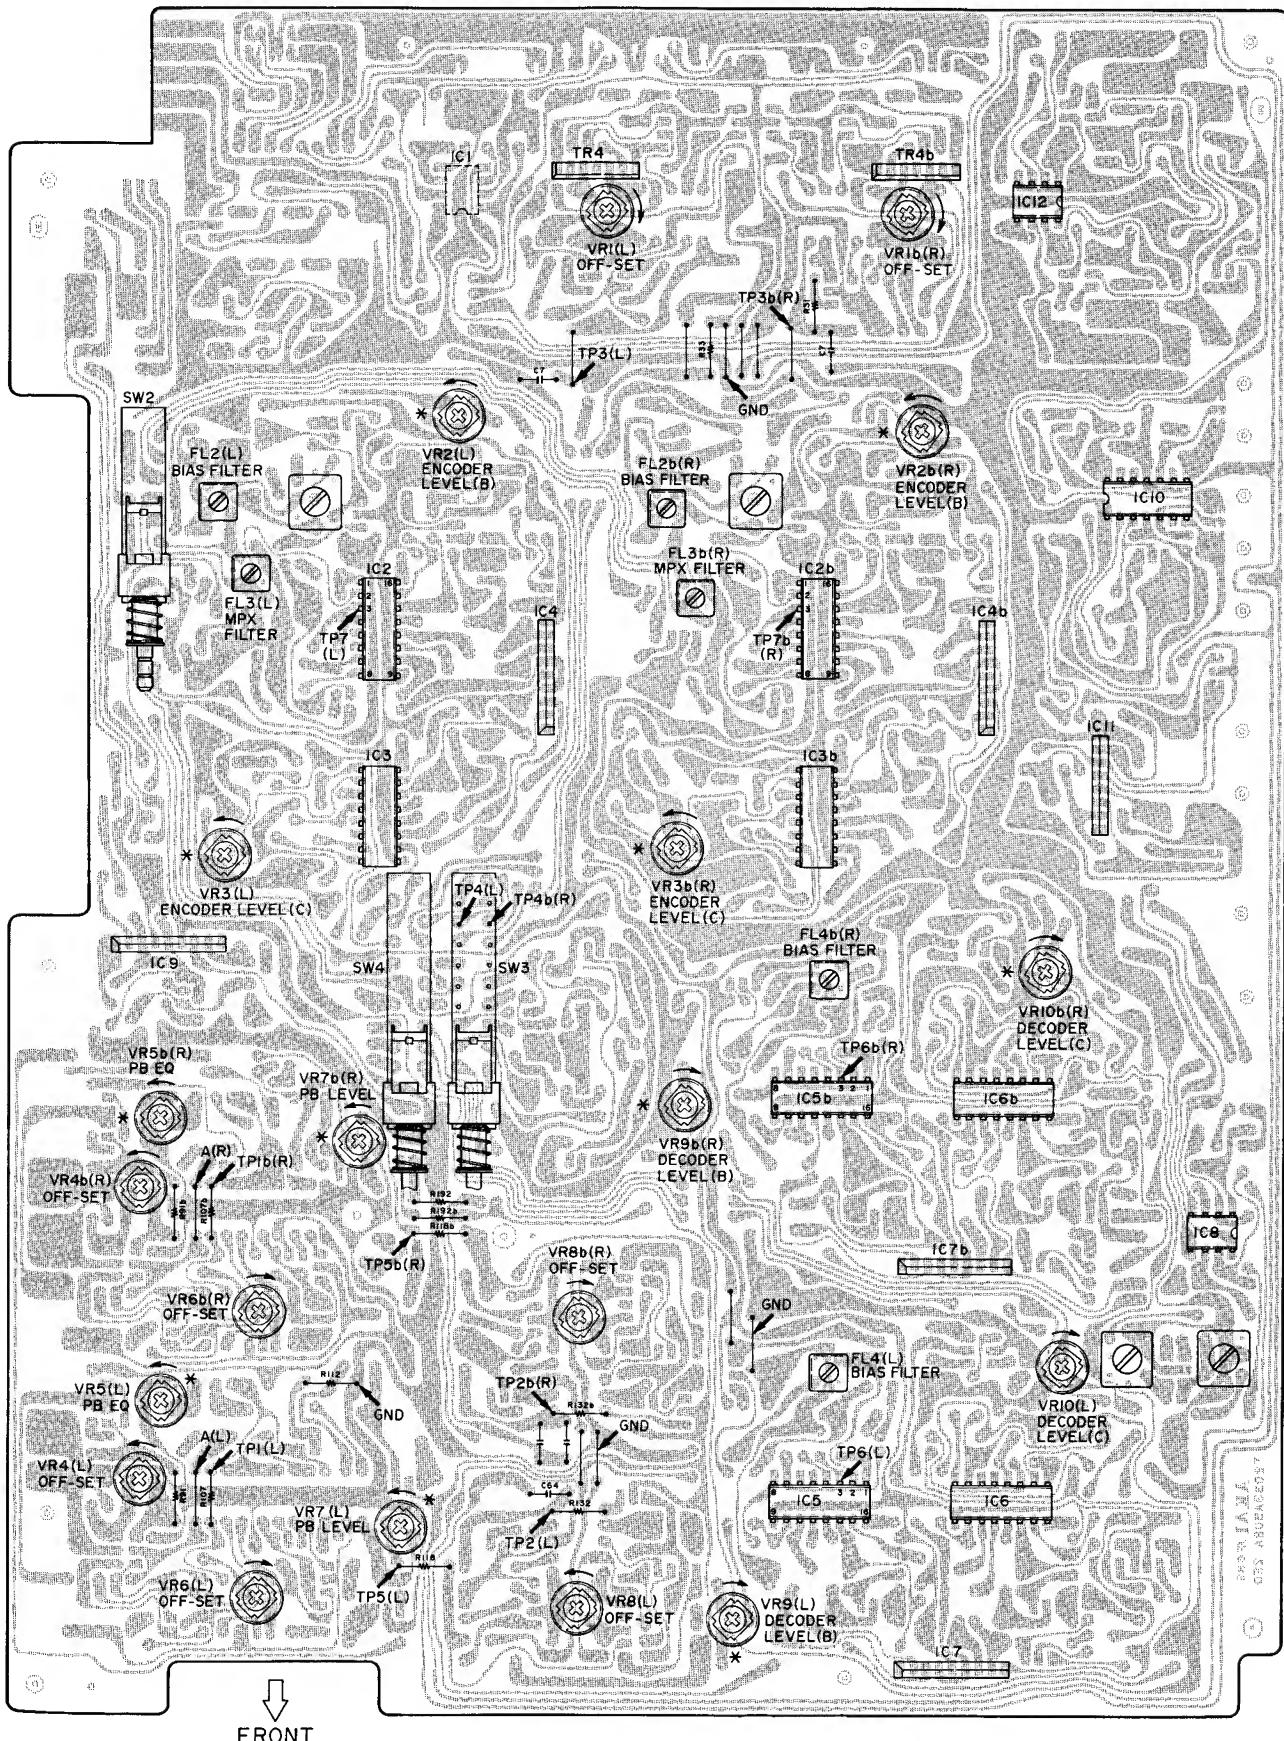

Fig. 2-16 Pre Amp PCB (Parts Side View)
1. PB DIFFERENTIAL AMPLIFIER OFF-SET VOLTAGE ADJUSTMENT (Fig. 2-16)
2. PB EQ AMP ADJUSTMENT (Fig. 2-16)
3. DOLBY ENCODER ADJUSTMENT (Fig. 2-16)
(Fig. 2-16)
7. LEVEL ADJUSTMENT OF PLAYBACK OUTPUT LEVEL DETECTION CIRCUIT (Figs. 2-16, 17)